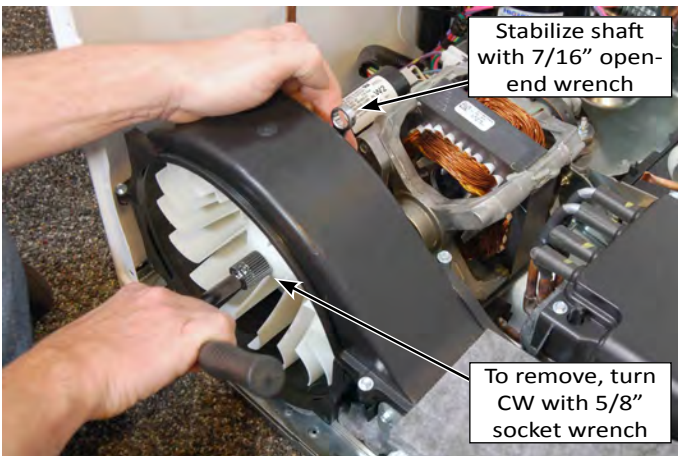

Figure 1
6. Reach around to the back of the blower housing and attached a 7/16" open-end wrench to the hex-end of the motor shaft, and a ratchet with a 5/8" socket over the hex-head nut on the blower wheel (see Figure 1).
7. Turn the blower wheel clockwise (shown by the "REMOVE" arrow that is embossed on the front of the wheel) and remove the wheel from the motor shaft (see Figure 1).